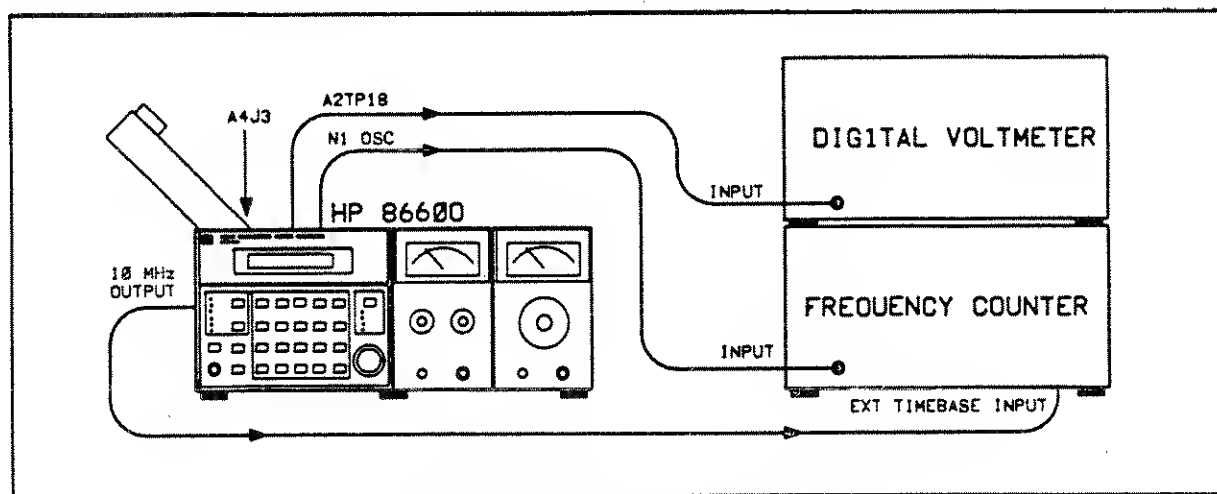

Figure 5-18. N1 Loop Test Setup
1. Set up test equipment as shown in Figure 5-18.